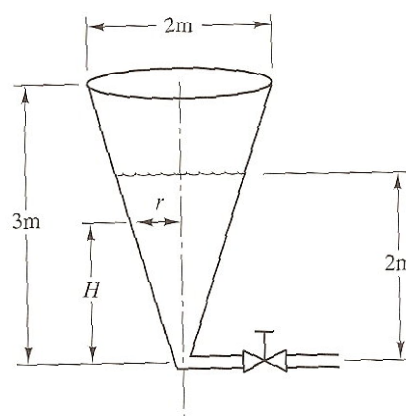

Fig. 2
- Consider the conical water tank system shown in Figure 2. The flow through the valve is turbulent and is related to the head H by